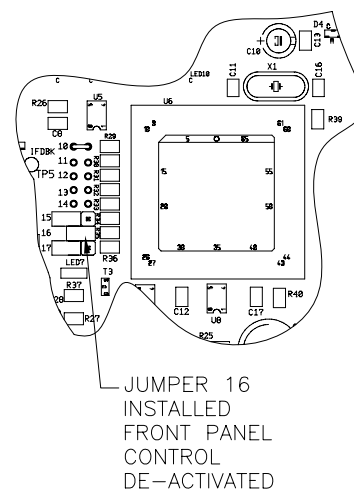

Figure 28: Jumper Location - Front Panel Lockout
3. Place the jumper across the two (2) pins at location 16 on the main PC board (see Figure 28).